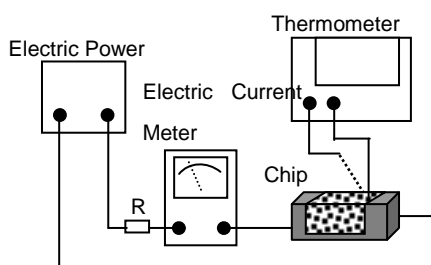

Fig. 5.3.5-1
- Definition of Rated Current( $I_r$ ):  $I_r$  is direct electric current as chip surface temperature rose just  $20^\circ\text{C}$  against chip initial surface temperature( $T_a$ ) (see **Fig. 5.3.5-2**).